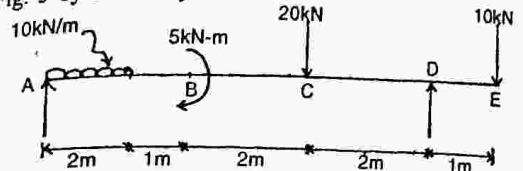

Fig. 5
8. A brass tube of external diameter 80 mm and internal diameter 50 mm is closely fitted to a steel rod of 50 mm diameter to form a composite shaft. If a torque of 6 kN-m is to be resisted by this shaft, find the maximum stresses developed in each material and angle of twist in 2 m length. Take $G_b = 40 \times 10^3$ N/mm², $G_s = 80 \times 10^3$ N/mm². (13)
9. Calculate the deflection under point loads for the beam shown in Fig. 5 by Macaulay's method. (14)